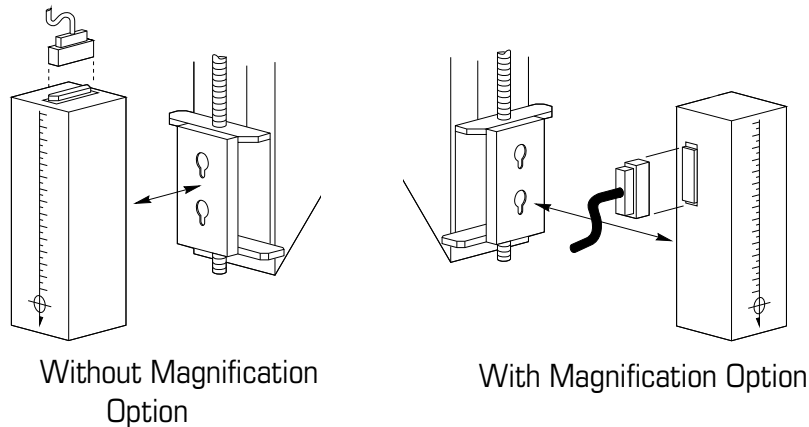

Figure 2 - Installing the Camera
2. Connect the cable to the top of the camera as shown in Figure 2.
4. Mount the camera on its bracket inside the sample compartment (Figure 2). You may need to tighten the bolts on the back of the camera to ensure that it is securely mounted.